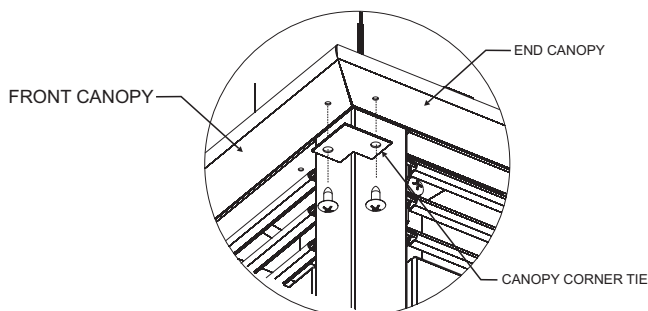

Figure 5a
Prior to installing the Peninsula mantel, install the 3-piece canopy and End Shield in conjunction with the (4) Mantel Corner Brackets (included with the Mantel Top) as shown in Figure 5a. Refer to the instructions included with the EMPT Mantel Top for additional installation details.
4. Place the other (2) Mantel Corner Brackets on top of the Front and Rear Canopies near the open end of the fireplace and loosely install a #10 x 1/2" screw through the corner bracket and canopy, then into the pilot holes provided. Do not tighten the screws.
7. To finish canopy installation, install two (2) canopy corner tie brackets at the underside of the canopy corners as illustrated by Figure 5a. Use a Phillips screwdriver to install two (2) #8 x 1/2" black sheet metal screws to attach each corner bracket. Before tightening screws, align the canopy mitered corners together then secure.